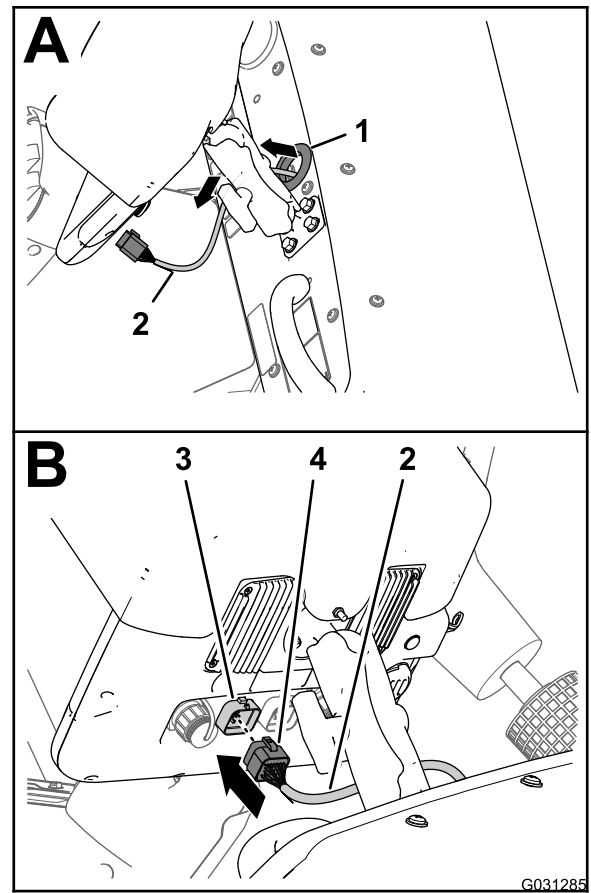

Figure 168
5. Route the route the 220 cm (86-5/8 inches) branch of the data harness up through grommet that surrounds the hole in the dash panel (Figure 168).
6. Align the 26-socket connector of the data harness with the 26-pin connector of the sprayer display and press the socket connector into the pin connector until the latch of the connector snaps securely (Figure 168).